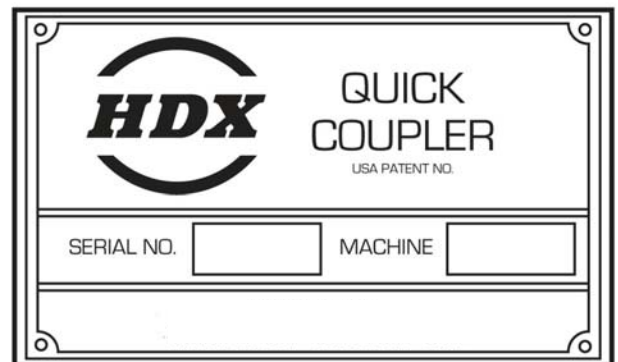

Fig. 3-1 (Coupler Serial Number ID Tag)
- ✓ Verify the coupler machine number on the *Serial Number ID Tag* (Fig. 3-1) matches the machine you are attempting to install the coupler on.